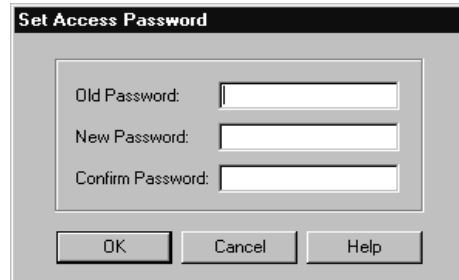

Figure 9-1. Set Access Password Dialog Box
- 2 Right-click on the system you wish to change the password for and select **Change Password**. The Set Access Password dialog box appears, as shown in Figure 9-1.